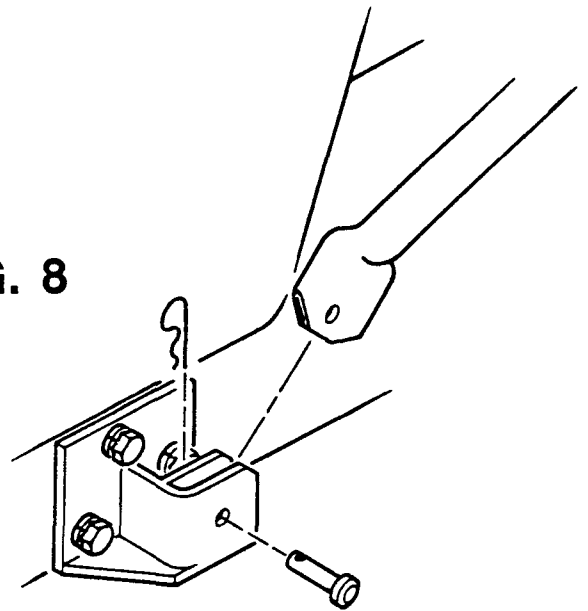

**FIG. 7**
- Insert the  $1/2 \times 4 1/4$  pins through pads and uprights and secure pins with #3 clip pins. SEE FIG. 7.
- Attach brace arms to upright with  $1/2 \times 1 1/2$  bolts,  $1/2$  lockwashers and  $1/2$  nuts. SEE FIG. 7.